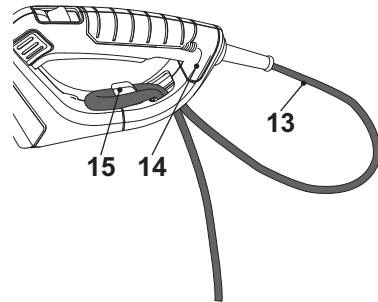

Fig. 4
2. Pull it over the cord retainer (15) and gently tug on the power cord (13) to ensure that it is firmly secured (Fig. 4).